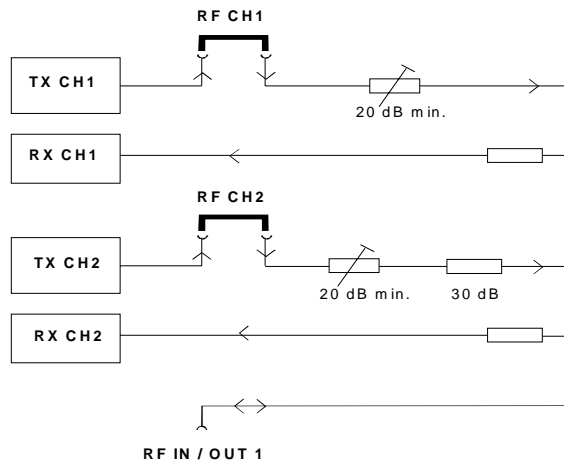

Fig. 3: RF paths in the CRTP/C02
- Apply the SMIQ output signal to the unused right-hand connector. In the analog unit this signal is then combined with transmit signal TX CH2 and the receive channels at the RF IN/OUT 1 connector (see Fig. 3).
**Note:** *RF CH2 can be faded in the same way as CH1. The minimum insertion loss between the feed point of the SMIQ signal and connector RF IN/OUT 1 is 20 dB for CH1 but 50 dB for CH2 (see Fig. 3). This value must be taken into account when programming the output level of the SMIQ.*
Set the variable attenuator in the fading path shown in Fig. 3 is to be set to minimum.